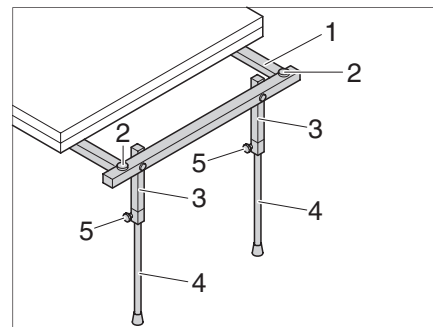

Fig. 60 Move legs into vertical position
- ▶ If necessary, extend the telescopic supports (Fig. 60,3 and 4) to stabilise the tabletop.